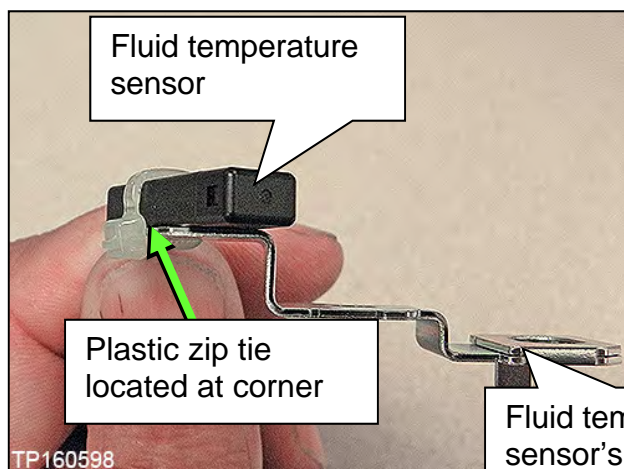
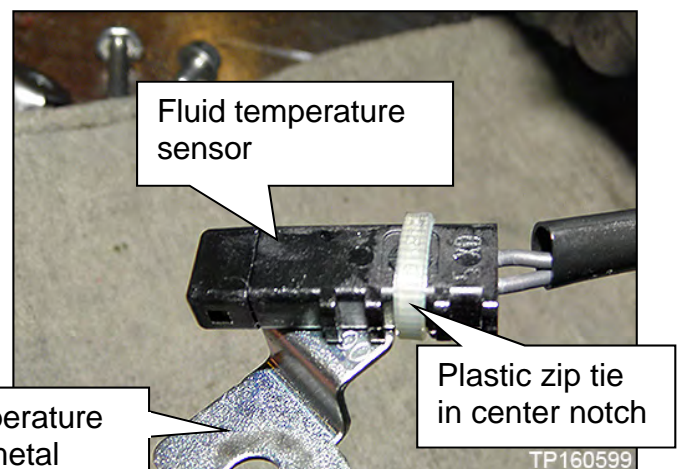

Figure 23
Figure 24
- a. Cut the old plastic zip tie with an appropriate tool to remove the fluid temperature sensor's metal bracket from the terminal harness assembly (Figure 23 and Figure 24).
- Locate the plastic zip tie at the center notch of three notches on the fluid temperature sensor (Figure 24).
- Tighten the plastic zip tie so that it is oriented as shown in Figure 23.